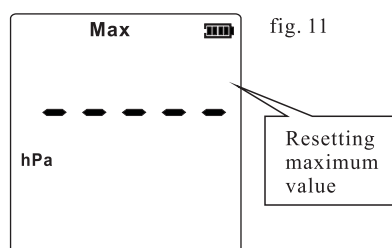
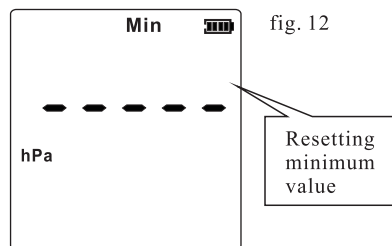

fig. 11
fig. 12
4.8.2 Press [MODE] button for 2 secs, until LCD showed “-----”, to showed instrument has been re-seted. As fig. 11 and fig. 12 showed.